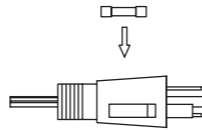

Fig.4
4. Risk of fire. Replace fuse only with 5Amp, 125Volt fuse. (See Fig.4)